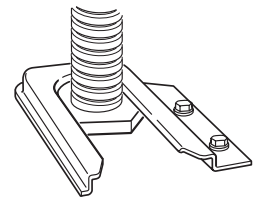

Figure 24
- 9 Move range close to opening. Remove shipping base, cardboard or hardboard from under range, if used. Move range into final position making sure rear leveling leg slides into Anti-Tip Bracket. (See Figure 24)